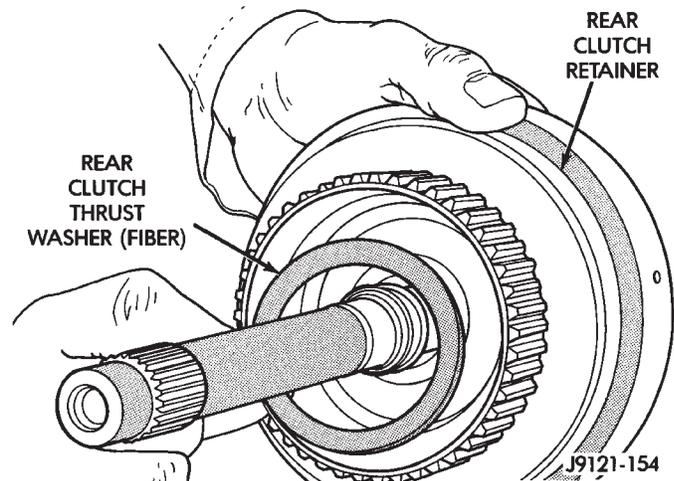

Fig. 141 Installing Rear Clutch Thrust Washer
(12) Install rear clutch thrust washer (Fig. 141). Use additional petroleum jelly to hold washer in place if necessary.